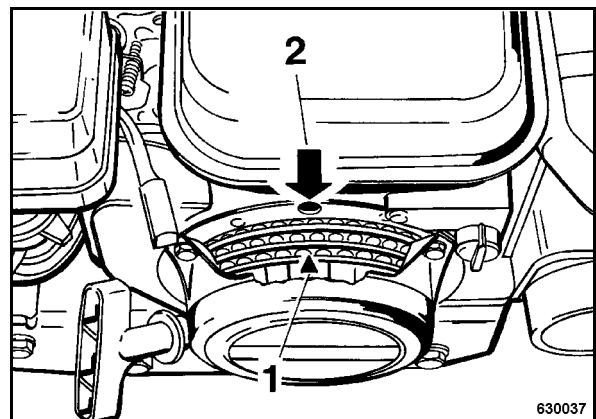

Fig. 64
- For this purpose align triangle mark (1) (Fig. 64) on the starter disc to the top bore (2).